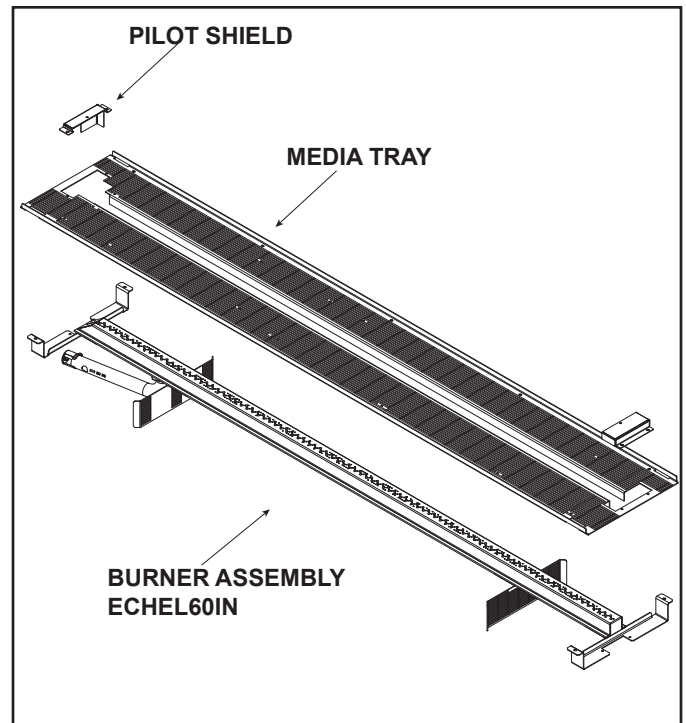

Figure 9.4. Media Tray with Burner and Pilot Shield (ECH60IN)
- Remove the eight screws that secure the glass window. Remove the glass window. Handle with care. See Figure 9.4.